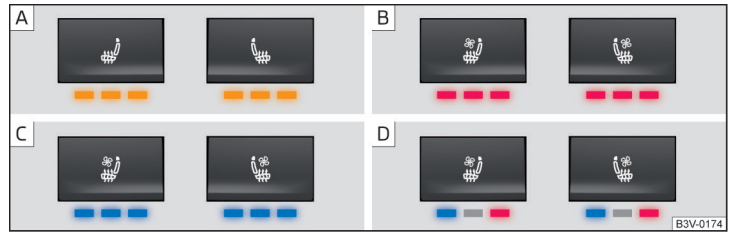

Fig. 86 Display of the front seat heating (and ventilation) with control lamps
**Indicator lamp display** » Fig. 86
The seat heating is switched on at maximum heat » [Fig. 86 on page 88 - \[A\]](#).
The seat heating is switched on at maximum heat » [Fig. 86 on page 88 - \[B\]](#).
Below the button the control lamps » [Fig. 86 on page 88 - \[C\]](#) illuminate. ▶